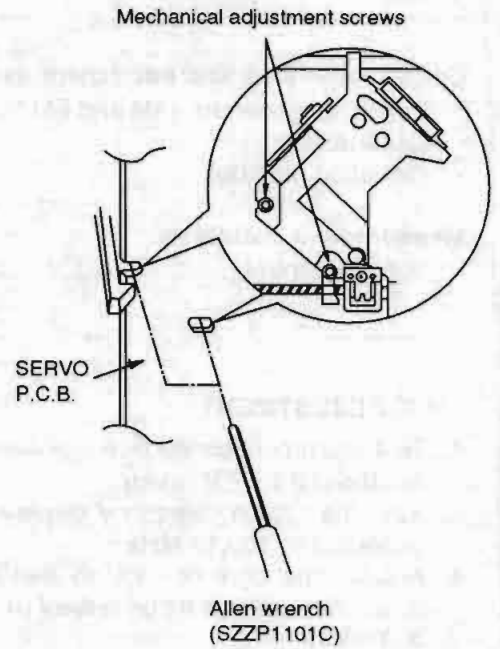

Fig. 2
4. Alternately adjust the two mechanical adjusting screws with the 2.0mm allen wrench (SZZP1101C) until the RF signal amplitude variation on the oscilloscope is minimized. (Refer to Fig. 2 on page 22)